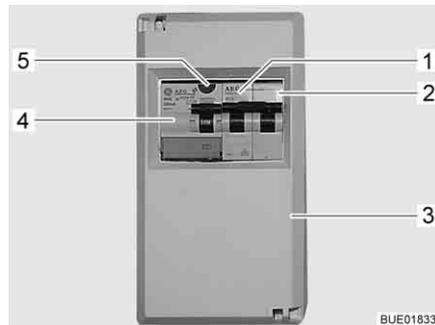

Fig. 168 230 V fuse box with safety cut-out and FI-switch
A fault current protection switch (FI-switch) (Fig. 168,4) in the fuse box (Fig. 168,3) protects the complete vehicle from fault current (0.03 A).
The downstream safety cut-out (10 A) (Fig. 168,2) secures the 230 V sockets, the power supply unit, the auxiliary charging unit and the refrigerator.
For vehicles with special equipment, e.g. air conditioning unit, an additional safety cut-out (16 A) (Fig. 168,1) secures the device.
- When the vehicle is connected to the 230 V power supply, press the test button (Fig. 168,5). The fault current protection switch (FI-switch) must be activated.